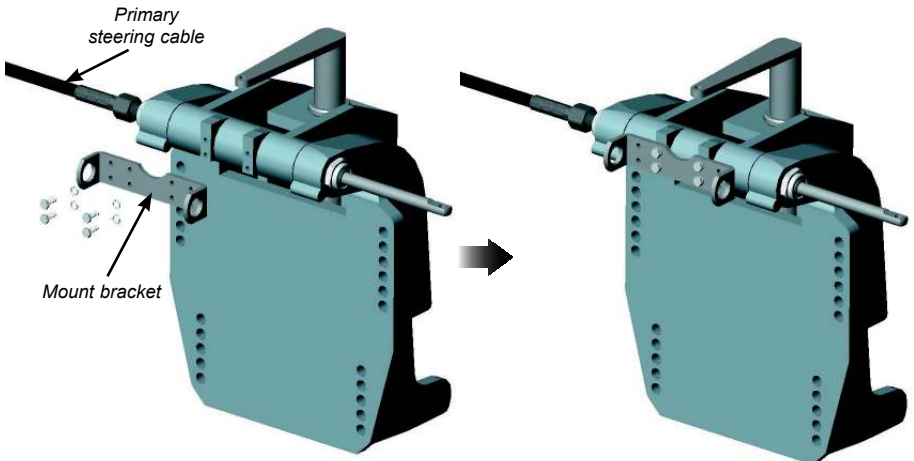

Fig B6 - Fitting the cable mount bracket
- The bracket attaches to the four threaded mounting holes on the front face of the tilt tube (Fig B6). Four M6 $\frac{1}{4}$ in-28 UNF bolts and lockwashers are supplied in the kit.